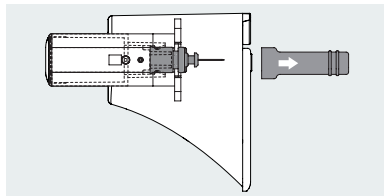

Figure 55
**3** Remove the protective sleeve as shown in Figure 55.